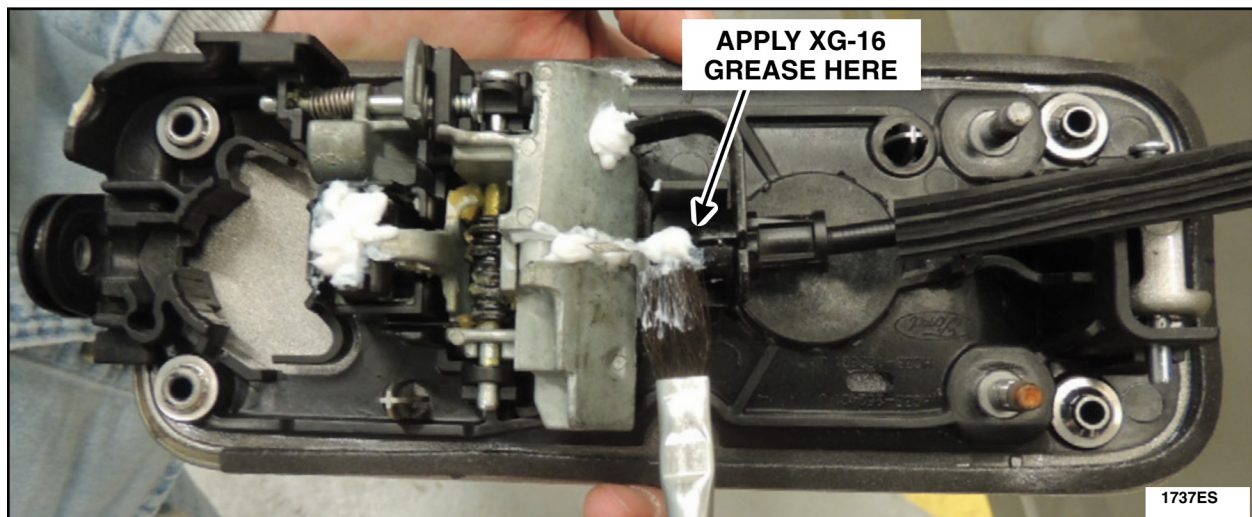

FIGURE 58
39. Reconnect the exterior door handle cable to the door handle and lubricate the door handle cable end with Motorcraft® XG-16 low temperature grease, as shown in Figure 58.